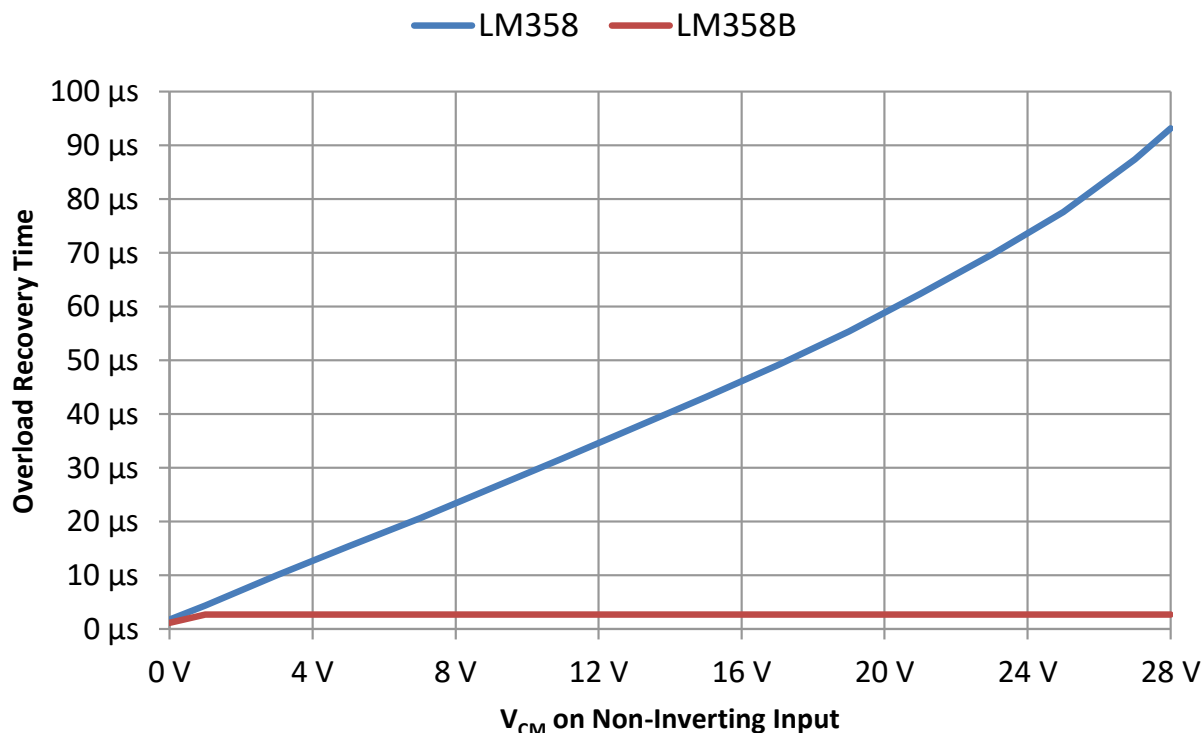
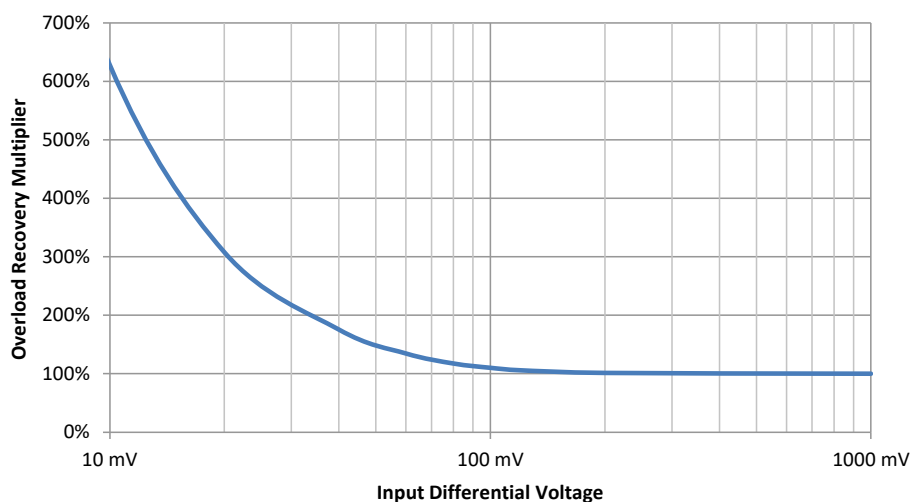

Figure 6-1. Overload Recovery Time from V_{OL} vs V_{IN+} , $V_{ID} = 200$ mV, $V_{CC} = 30$ V
Figure 6-3. Overload Recovery Multiplier vs Input Differential Voltage (V_{ID})
Overload recovery time is analogous to comparator propagation delay. Overload occurs when an op amp's input voltage difference is large enough such that the output reaches either the V_{OL} or V_{OH} level and the output no longer changes with variations in the input. Some internal node voltages will continue to change even though the op amp output is not changing. The overload condition ends when the input voltage difference is reduced to a point where the op amp returns to a linear operating region or the input voltage polarity is reversed. After the overload condition is removed, there is a finite time delay before the output can change from the V_{OL} or V_{OH} level. This delay is the overload recovery time. The data sheet does not specify an overload recovery time parameter. The recovery time when the output is at the V_{OH} level is approximately 2 μ s, regardless of the common mode voltage. The recovery time when the output is at V_{OL} varies with the common mode voltage present at the non-inverting input as seen in Figure 6-1.
In addition to the overload recovery time of 2 μ s from the V_{OH} state or the overload recovery time in Figure 6-1 from the V_{OL} state, the input voltage difference applied during the input recovery time is also a factor in the actual recovery time. One can multiply the internal factor time (2 μ s or the time from Figure 6-1) by the scalar value in Figure 6-3 to get the final expected recovery time. V_{ID} is the voltage applied while waiting for the recovery time.
For example, assume the LM358 output is in a V_{OL} state, the non-inverting input is 10 V, and the inverting input is 10.05 V. If the inverting input suddenly drops to 9.98 V, then the output will start increasing after approximately 90 μ s. The input common mode was 10 V, which makes the overload recovery time 30 μ s, per Figure 6-1. The input difference is 10 V – 9.98 V = 20 mV which makes the multiplier 300%, per Figure 6-3. Multiply the two values; 30 μ s $\times$ 300% = 90 μ s. Later when the inverting input suddenly rises back to 10.05 V, the output will start decreasing after approximately 3 μ s. The output was V_{OH} , so the recovery time is 2 μ s. The input difference is 10.05 V – 10 V = 50 mV, which makes the multiplier 150%, per Figure 6-3. Multiply the two values; 2 μ s $\times$ 150% = 3 μ s.
Slew rate (SR) limits the output rise and fall times, which are defined as $(V_{OH} - V_{OL})/SR$. Slew rate, as specified in the op amp data sheet, is applicable for large differential input voltages. Dedicated comparator parts, on the other hand, may have much smaller differential input voltages. Note that the slew rate is reduced when the input difference voltage is small. Figure 6-3 shows that an input difference of 100 mV provides a slew rate 90% as fast as the data sheet setup result and a 10-mV input difference voltage has a slew rate that is only 16% of the data sheet slew rate.